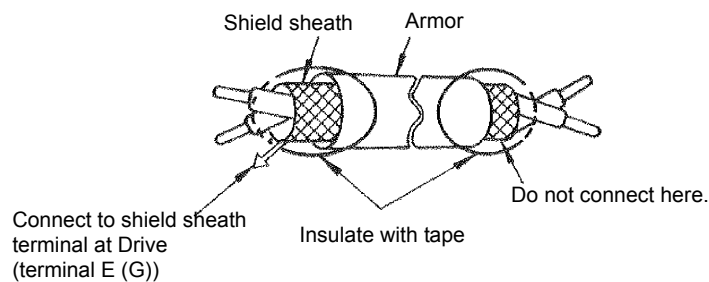

Fig 2.17 Processing the Ends of Twisted-pair Cables
- Use twisted-pair or shielded twisted-pair cables for control circuits to prevent operating faults. Process cable ends as shown in *Fig 2.17*.
- Connect the shield wire to terminal E (G).